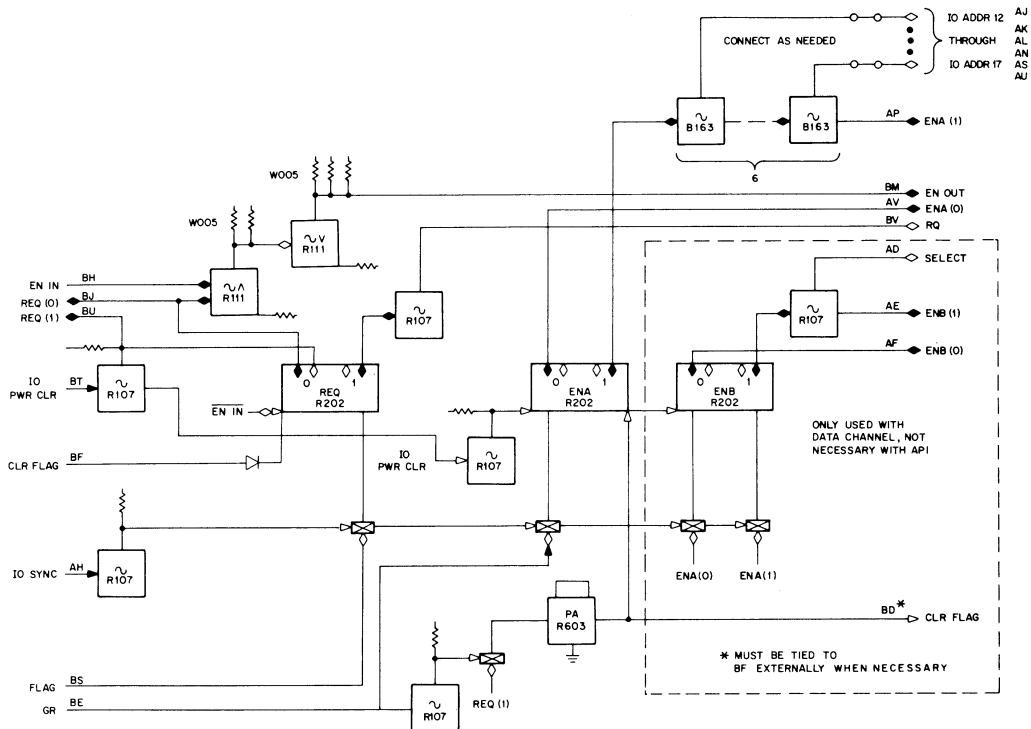

Figure 3-7 Equivalent Circuit of the W104 Module
3.3.1.2 The W104 Module - DEC makes a double-height FLIP CHIP module, the W104, to handle much of the timing and hardware interface demands of the API. Its equivalent circuit is shown in Figure 3-7.
3.4.2.1 Device Requirements - Each device connected to the data channel must have the interface hardware outlined below. The first four requirements are essentially the same as those met by devices connected to the program interrupt. They insure that the device hardware may also be checked by maintenance routines using special IOT instructions. Requirements e, f, and g are met by the Type W104 Bus Multiplexer which is strongly recommended for use in the interface. The W104 is shown on Figure 3-7.
The W104 Module - As with the API interface for program controlled transfers, the DCH uses the W104 double-height FLIP CHIP module to handle the timing and hardware demands of the DCH. The equivalent logic circuit of this module is shown in Figure 3-7. The signal lines associated with the W104 module are described below: